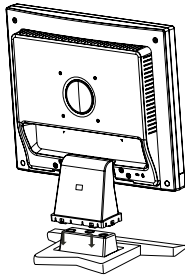

Figure 1
1. Insert the front of the LCD Stand into the holes in the front of the Base (**Figure 1**).